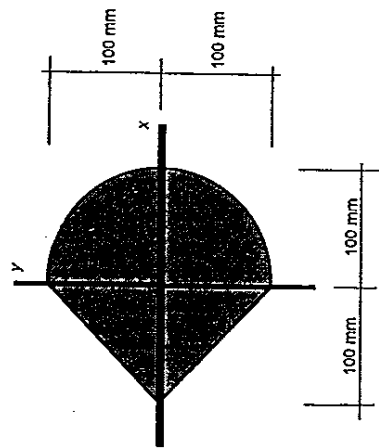

Figure Q2(a)
- (b) For the beam ABCD and loading shown in Figure Q2(b),